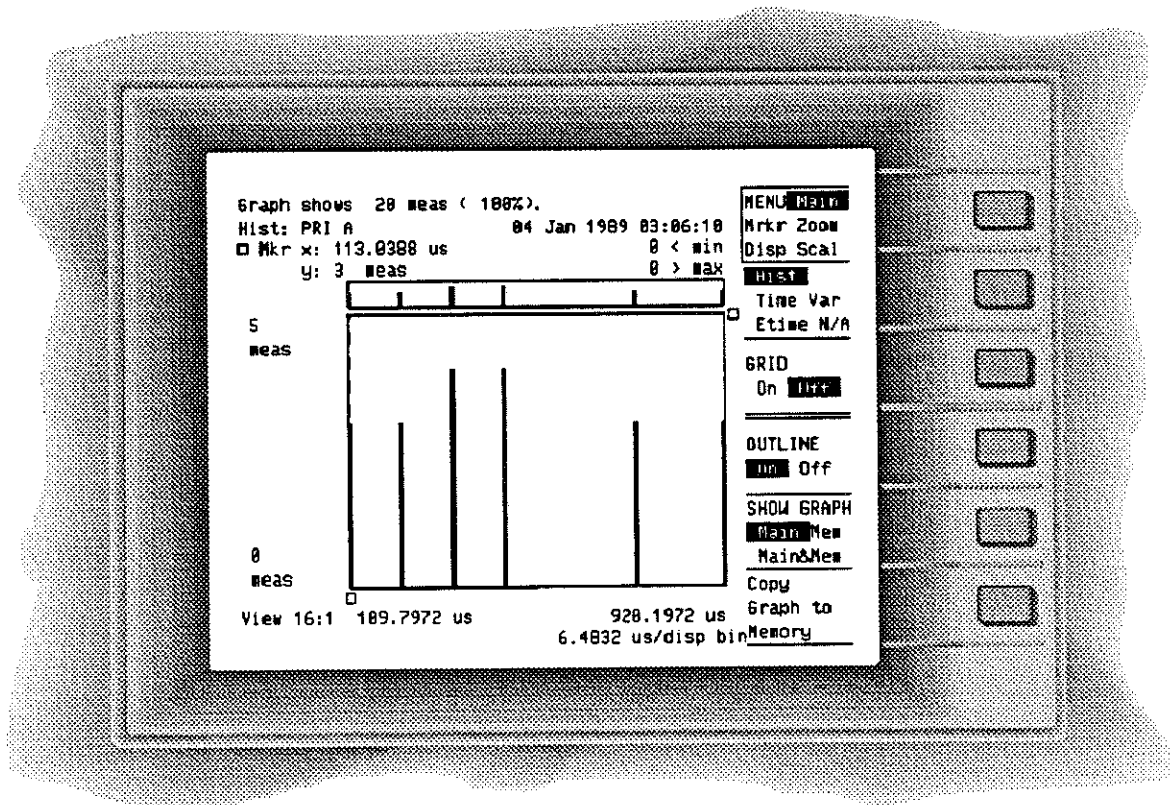
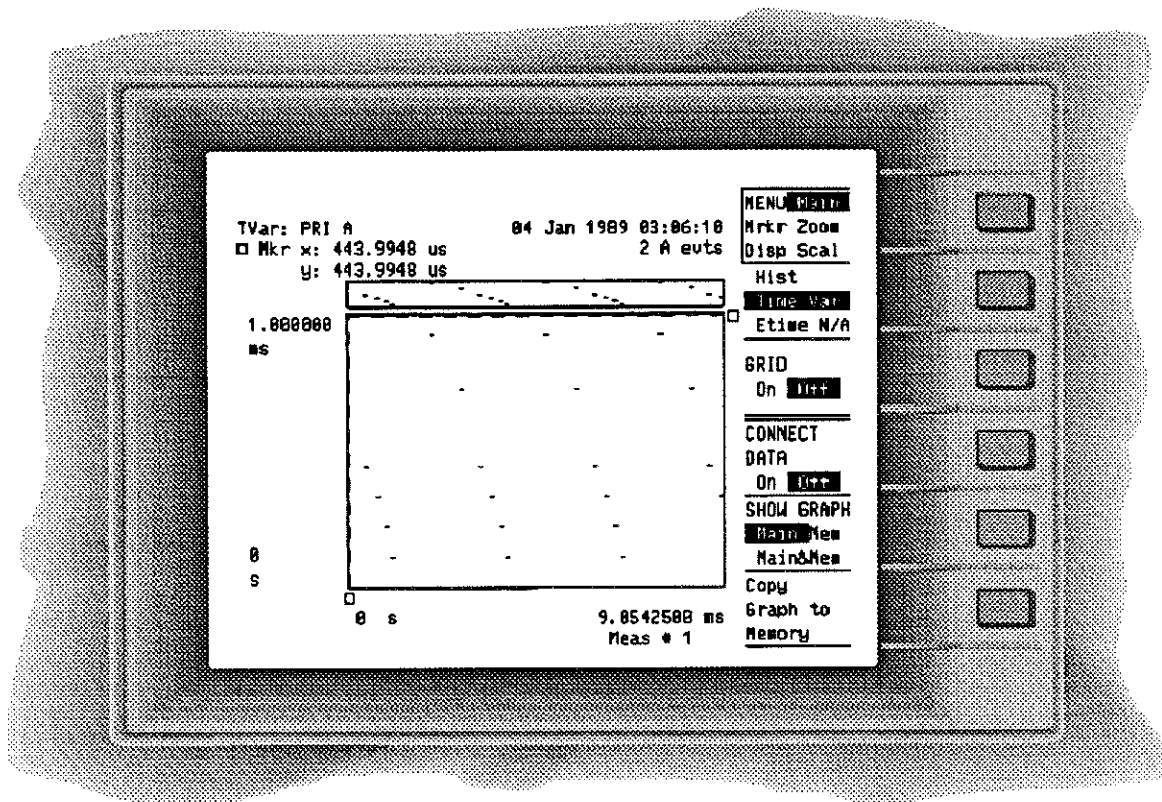

Figure 4-3. Staggered PRI Histogram Display
Figure 4-4. Staggered PRI Modulation Domain Display
Figure 4-3 shows the accumulated PRI values over a period of time via the Histogram display. Figure 4-4 shows how this signal appears in the Modulation domain.
9. Press the **Restart** Hardkey to collect a block of 20 PRI measurements. Observe the PRI modulation Histogram as shown in *Figure 4-3*.
10. Select the **Graphic** display, select **Main**, then select the **Time Var** display choice (second softkey). Observe the Staggered PRI signal as shown in *Figure 4-4*.